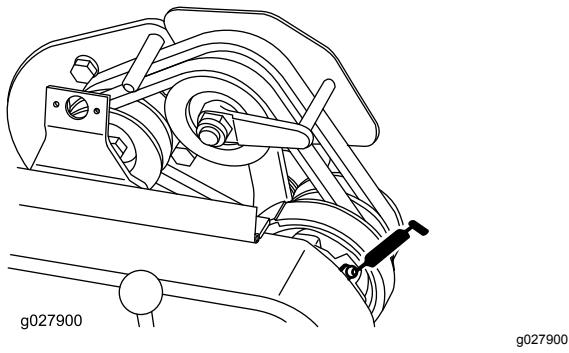

Figure 27
- 1 on the belt idler pivots (Figure 27).